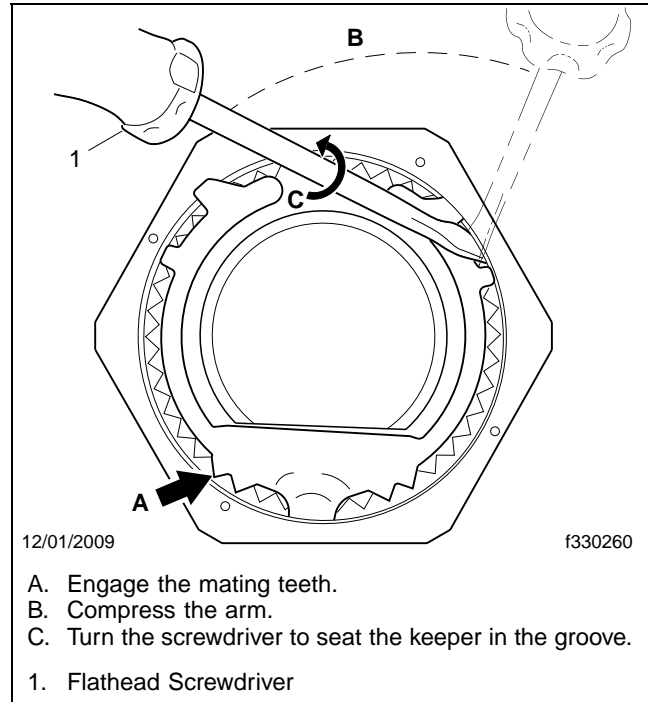

Fig. 20, Installing the Keeper
- 3.2 Use a flathead screwdriver to carefully compress and guide each arm past the lip and into the undercut groove of the nut as shown in **Fig. 20**. To secure the keeper it may be necessary to nudge the arms into the groove.
- 5.2 Use a flathead screwdriver to carefully compress and guide each arm past the lip and into the undercut groove of the nut as shown in **Fig. 20**. To secure the keeper it may be necessary to nudge the arms into the groove.